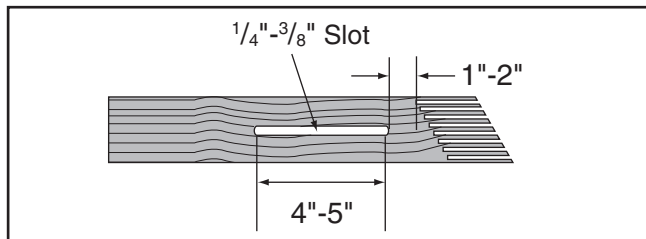

Figure 97. Slot routed in featherboard.
4. Rout a $\frac{1}{4}$ "- $\frac{3}{8}$ " wide slot 4"-5" long in the workpiece and 1"-2" from the short end of the featherboard (see **Figure 97**).